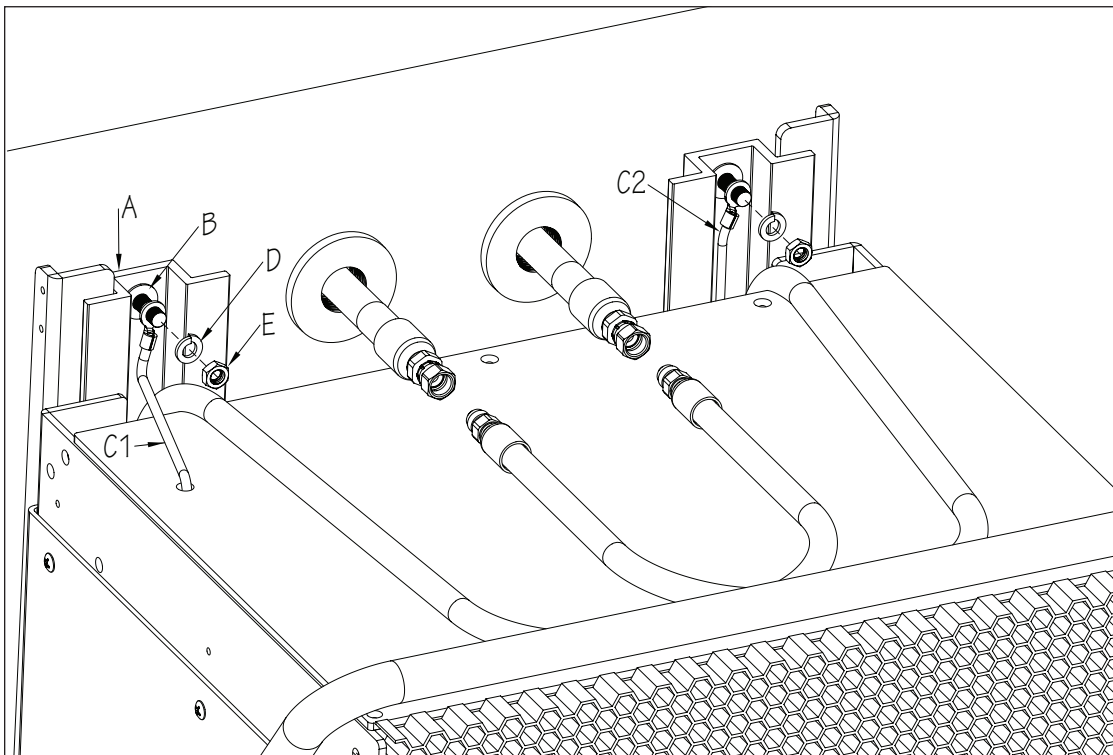

Fig. 9
2. With a minimum of two people, lower the Fastlane Swim into the pool. Align the mounting holes in the Hat Sections (A) with the Threaded Rods/Studs that protrude into the pool and hang the Current Unit.
Install a Flat Washer (B) and Bonding Wire (C1) and (C2) onto the Threaded Rod/Stud. **IT IS CRITICAL THAT BOTH BONDING WIRES ARE INSTALLED.** Secure Current Unit to the wall using Lock Washers (D) and Jam Nuts (E) (Fig. 9).